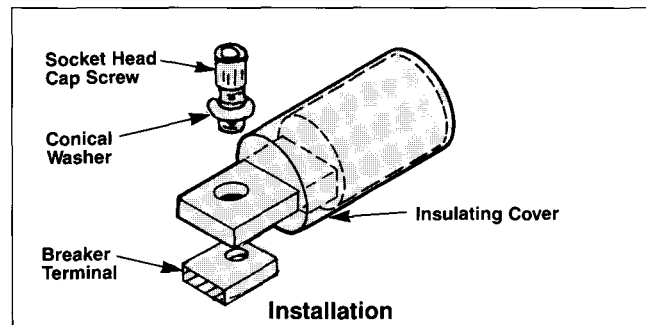

Figure 3
- Slip insulating cover over connector tang and then over connector barrel so that only the connector tang is exposed (Figure 3).
- Position connector tang on top of the circuit breaker terminal pad and secure with $\frac{1}{4}$ -28 x $\frac{1}{2}$ in. socket head cap screw and conical spring washer. Conical spring washer is to be installed with convex side of washer toward underside of screw head (Figure 3). Torque screw to 50 in-lb.